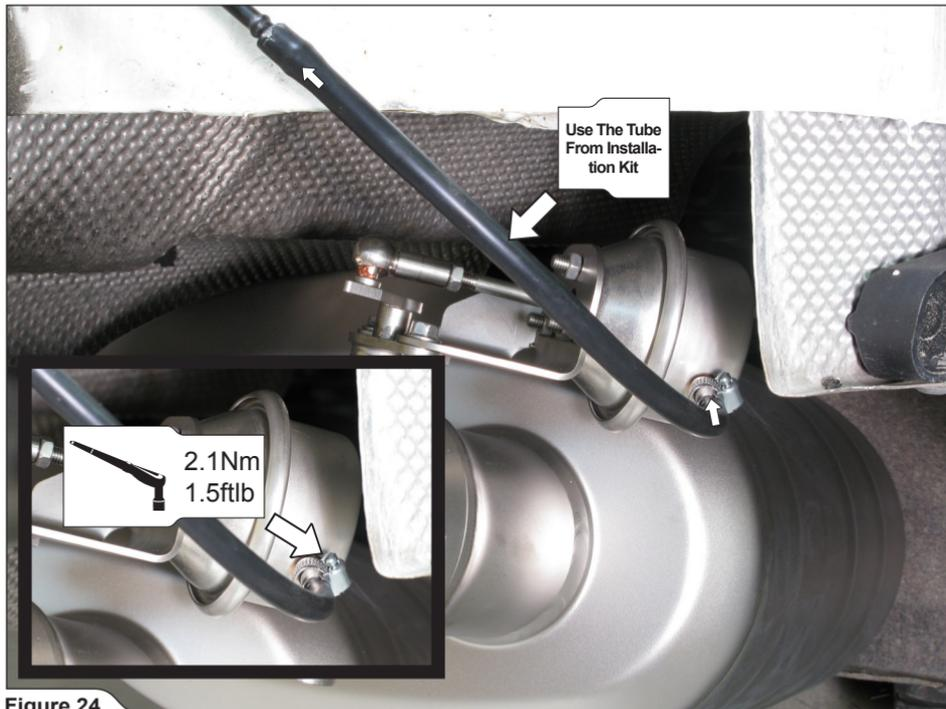

Figure 24
- Remove the right stock rubber vacuum tube off the vacuum line and replace it with rubber tube from Akrapovič installation kit. Attach the tube to the right vacuum actuator, using tape clamp from Akrapovič installation kit (**Figure 24**).